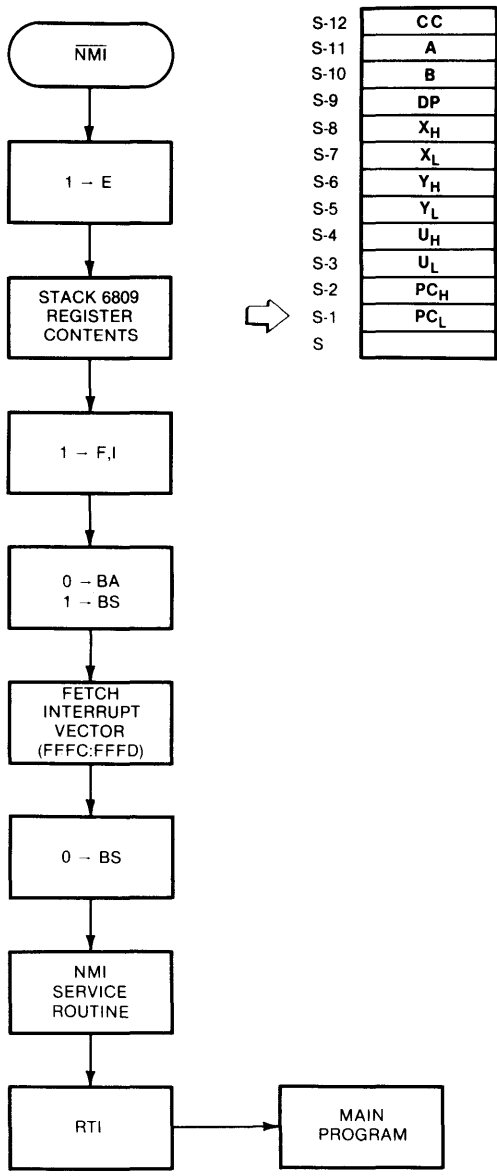

Fig. 6-9. $\overline{\text{NMI}}$ sequence of events.
All of the other hardware interrupts ($\overline{\text{NMI}}$, $\overline{\text{IRQ}}$, and $\overline{\text{FIRQ}}$) are either masked out or disarmed. However, if a non-maskable interrupt ($\overline{\text{NMI}}$) occurs during the reset sequence, its active edge will be latched (saved) and the $\overline{\text{NMI}}$ sequence of events (Fig. 6-9) will be executed immediately after any instruction which loads the
The 6809 non-maskable interrupt ($\overline{\text{NMI}}$) is very similar to the 6800 $\overline{\text{NMI}}$. As the name implies, this interrupt cannot be masked by the programmer. The *only* time that an $\overline{\text{NMI}}$ is not accepted is during the reset operation. Recall from our discussion of $\overline{\text{RESET}}$ that the $\overline{\text{NMI}}$ logic is disarmed during the reset sequence. However, any $\overline{\text{NMI}}$ occurring during the reset operation will be latched (saved), with the $\overline{\text{NMI}}$ sequence occurring after the first load into the S register. In addition, if a non-maskable interrupt occurs during the $\overline{\text{HALT}}$ operation, the active $\overline{\text{NMI}}$ state will be latched and the $\overline{\text{NMI}}$ sequence will not be executed until after the MPU is released from the $\overline{\text{HALT}}$ state. The $\overline{\text{NMI}}$ sequence of events is shown in Fig. 6-9. The E flag is set to indicate that *all* of the internal registers are to be stacked. The registers are then stacked in the order shown. The F and I flags are set to mask out any $\overline{\text{FIRQ}}$ or $\overline{\text{IRQ}}$ (maskable) interrupts such that the $\overline{\text{NMI}}$ sequence will not be interrupted by a maskable-type interrupt. However, another active $\overline{\text{NMI}}$ could interrupt an existing $\overline{\text{NMI}}$ sequence since $\overline{\text{NMI}}$ is not masked by the execution of the $\overline{\text{NMI}}$ sequence. If this is allowed to occur repeatedly before the sequence can be completed, the stack will definitely overflow. When the $\overline{\text{NMI}}$ interrupt vector is fetched at address FFFC:FFFD, the bus status lines (BA/BS) indicate an interrupt acknowledge (IACK). Once the vector is fetched and loaded into the program counter, the bus status (BS) line is cleared to indicate the normal MPU running state and the $\overline{\text{NMI}}$ interrupt service routine is executed. When the service routine has been completed, execution must be directed back to the main program. This is done by inserting a return from interrupt (RTI) instruction as the last instruction in the interrupt service routine. The RTI returns the 6809 to its previous status by unstacking the old register contents.